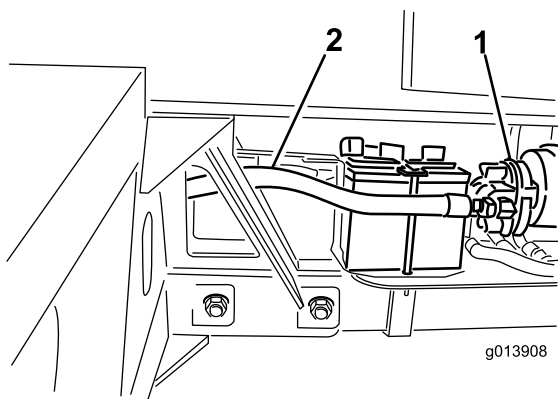

Figure 12
9. Connect the hydraulic hose #4 to the suction side of the hydraulic pump (Figure 12).